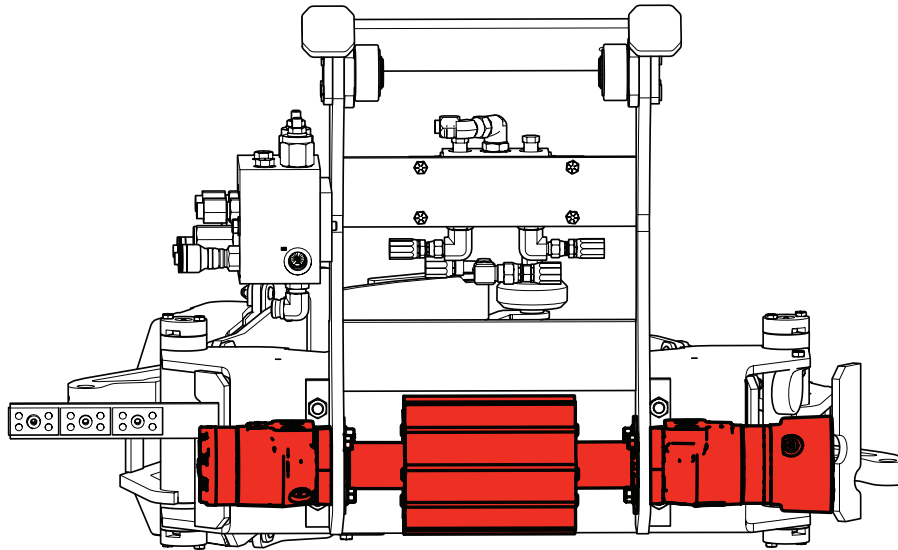

Figure 5
NOTE: The next steps detail work conducted on the backside of the grabber carriage assembly (see Figure 5).
11. Remove the motors, grabber gear, and all related hardware (Figure 5). Retain these items until further notice in this bulletin.